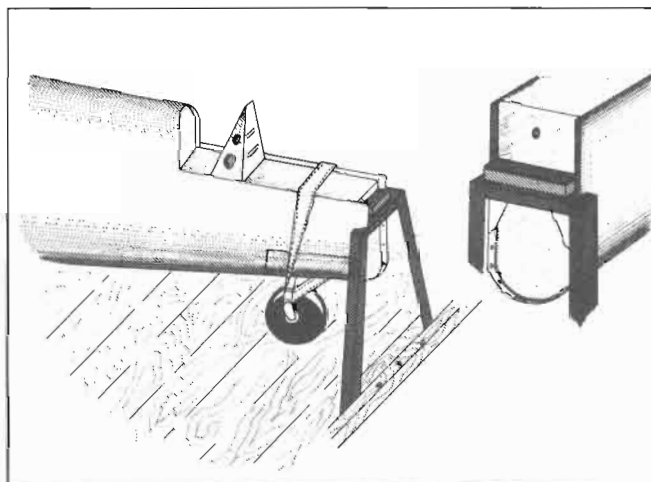

Figure 12 — Fuselage Rear End Attachment
- (e) Bolt the rear end of the fuselage to the rubber mounting on top of the tail stand. (See figure 12.)